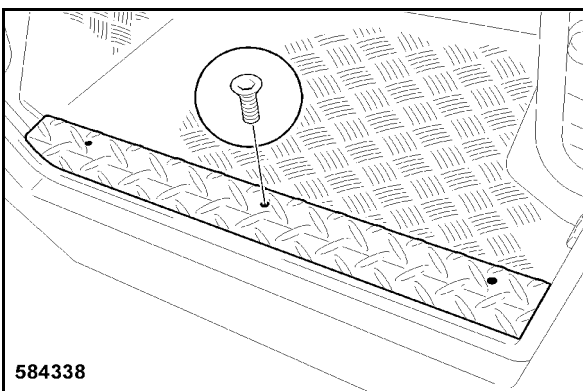

Fig. 219
- Attach the step plate 1 (Fig. 219) and tighten the three fastening screws (2).